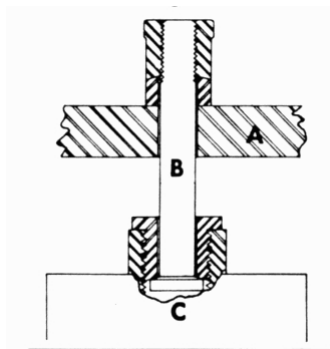

Figure 14:
Figure 14 shows the method of connecting a tension member (B) between the test instrument (C) and the lower yoke platen (A). The test instrument is connected to the lower machine platen in a similar fashion.
Procedures for disassembly and reassembly of the Morehouse Universal Calibrating Machine are evident from the drawings provided. The parts list and drawing for the hand pump is included with this manual. Parts lists and drawings for Morehouse Universal Calibrating Machines and hydraulic jacks are supplied with the calibrating machine. Recommendations regarding the disassembly and reassembly of the hand pump are included in this section. All numbers in parentheses refer to items in Figure 14.